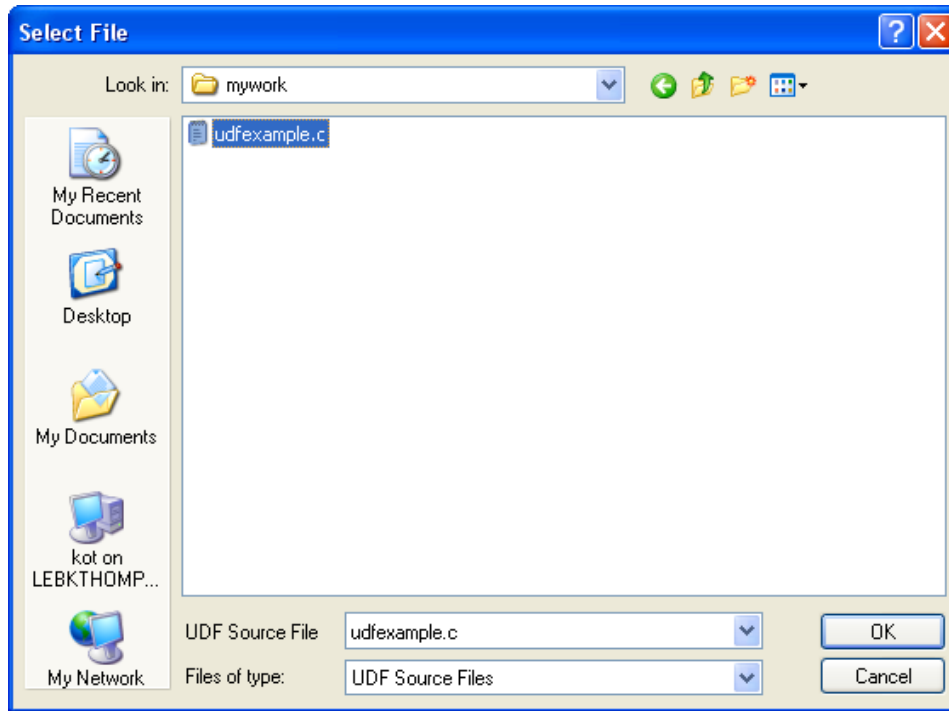

Figure 4.2.2: The Select File Dialog Box
- (a) Indicate the UDF source file you want to interpret by clicking the **Browse...** button. This will open the **Select File** dialog box (Figure 4.2.2).